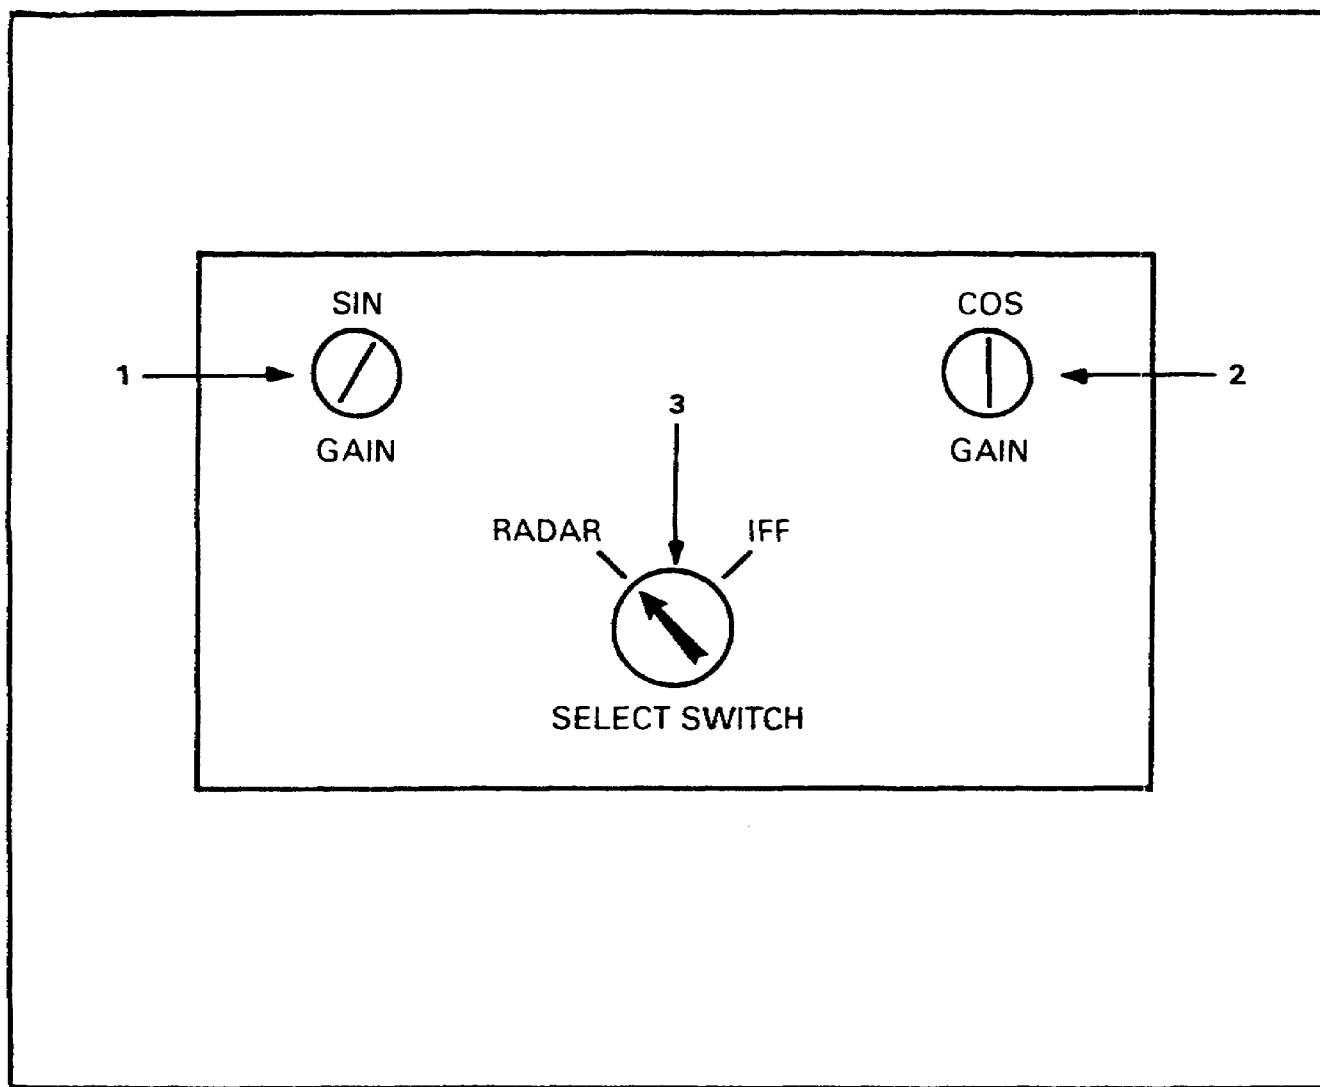

Figure 10. Sine-cosine converter MG-1501 or MG-1502.
i. Locate the following controls on the sine-cosine converters MG-1501 and MG-1502. Both are identical. (See Figure 10.)
- (1) Sin gain control.
- (2) Cos gain control.
- (3) Radar IFF select switch.
- _____ Sin gain control (Figure 10)
- _____ Cos gain control (Figure 10)
- _____ Radar-IFF select switch (Figure 10)